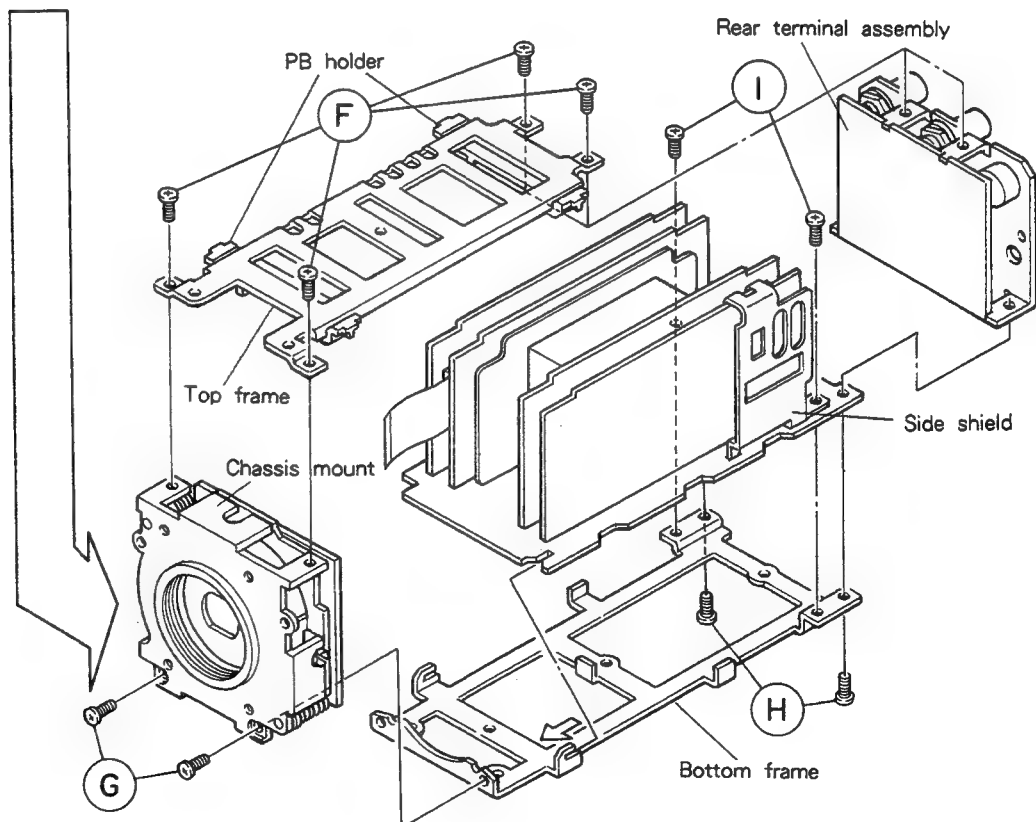

Figure 2 Removing the chassis parts
- (1) Remove the four screws (F) in Figure 2.
- (2) Then the two PB holders will be removed at the same time.
- (2) Remove the two screws (G) in Figure 2.
- (1) Remove the two screws (H) in Figure 2.
- (1) Remove the two screws (I) in Figure 2.
- (2) Move the frame in the direction of the arrow and remove it.
- (3) The side shield will then be removed at the same time.